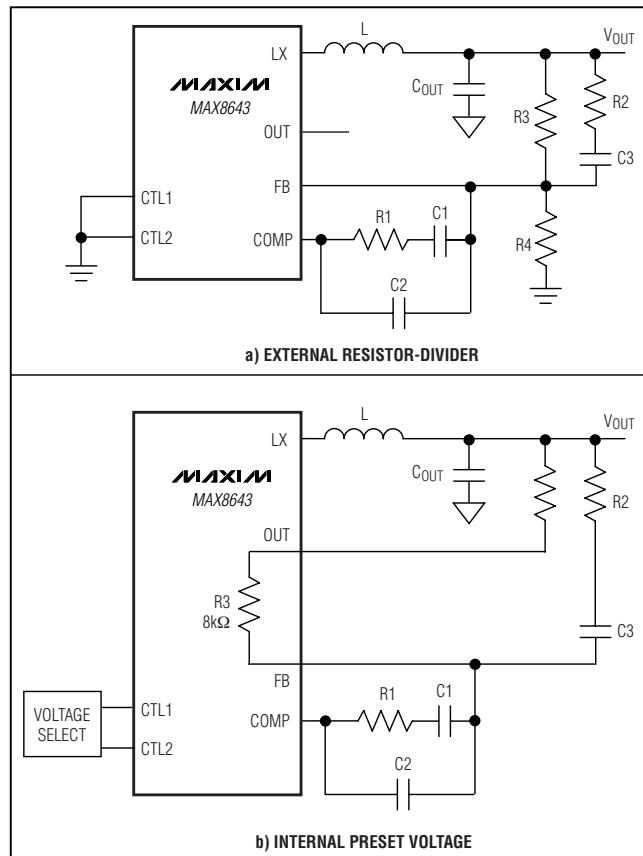
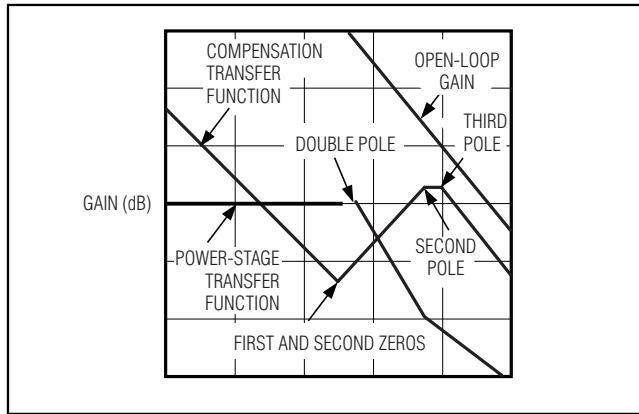

Figure 3. Type III Compensation Network
Figure 4. Type III Compensation Illustration
The high switching frequency range of the MAX8643 allows the use of ceramic output capacitors. Since the ESR of ceramic capacitors is typically very low, the frequency of the associated transfer function zero is higher than the unity-gain crossover frequency, f_C , and the zero cannot be used to compensate for the double pole created by the output filtering inductor and capacitor. The double pole produces a gain drop of 40dB/decade and a phase shift of 180°/decade. The error amplifier must compensate for this gain drop and phase shift to achieve a stable high-bandwidth closed-loop system. Therefore, use type III compensation as shown in Figure 3 and Figure 4. Type III compensation possesses three poles and two zeros with the first pole, f_{P1_EA} , located at zero frequency (DC). Locations of other poles and zeros of the type III compensation are given by: